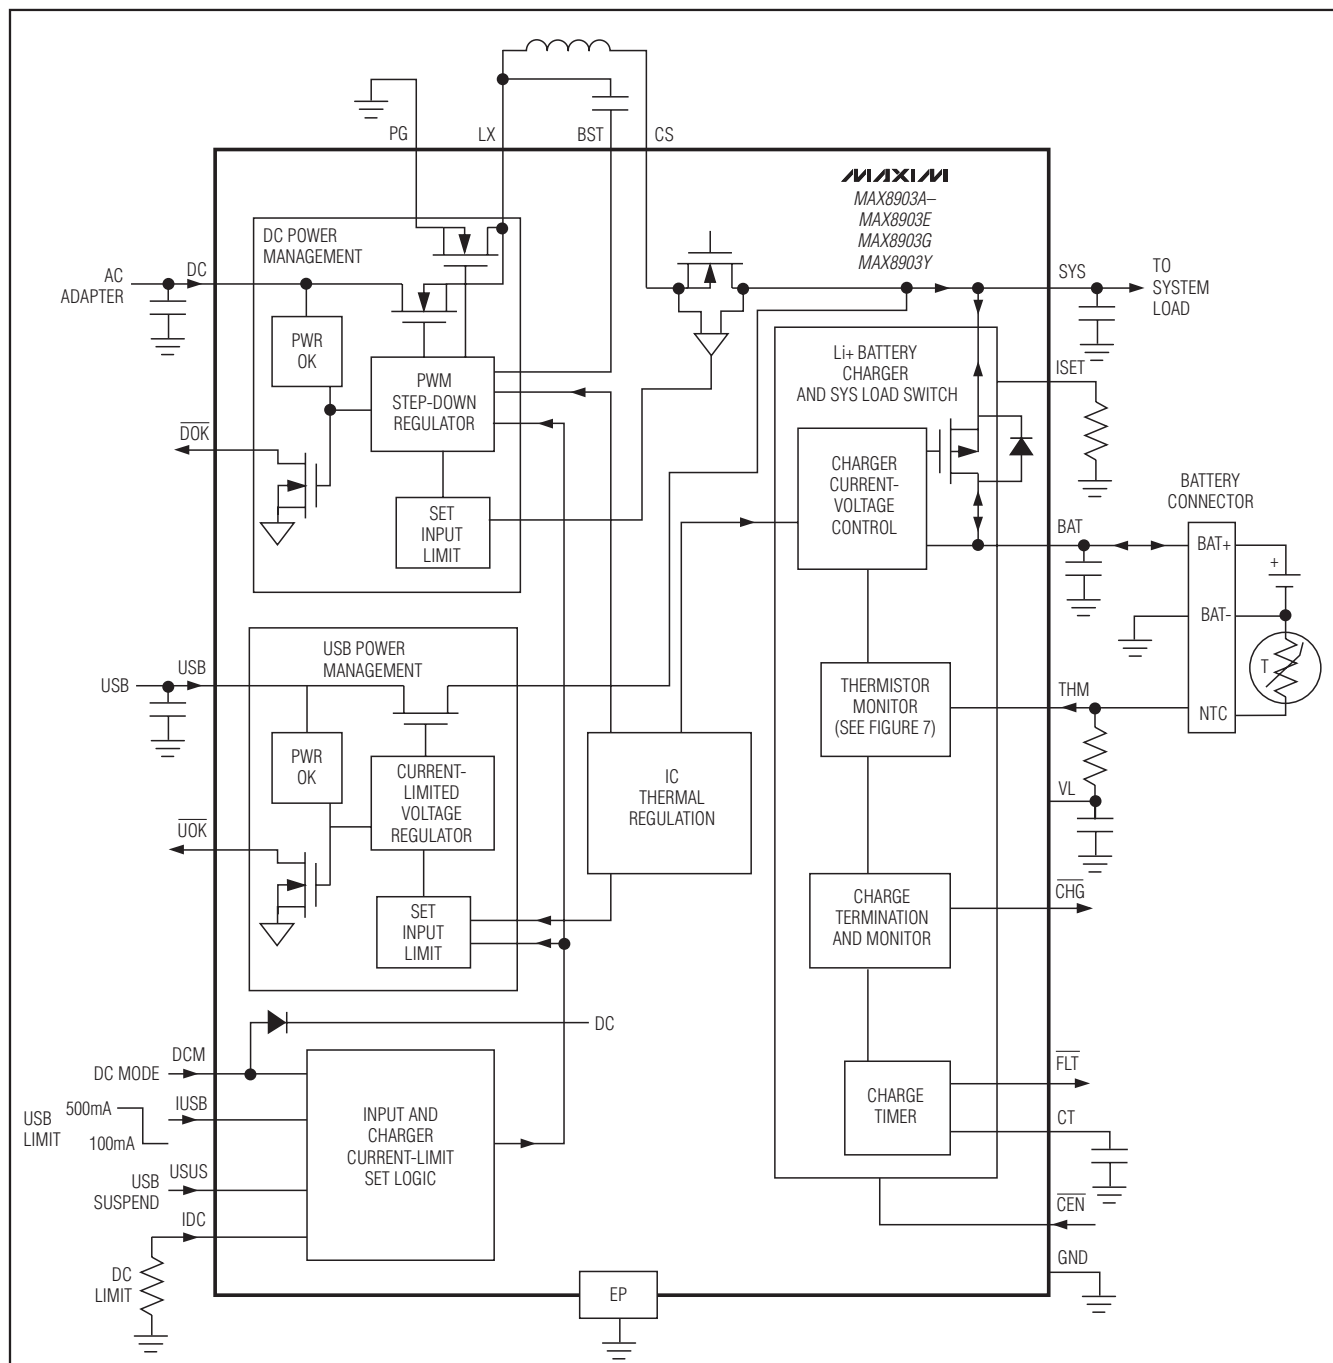
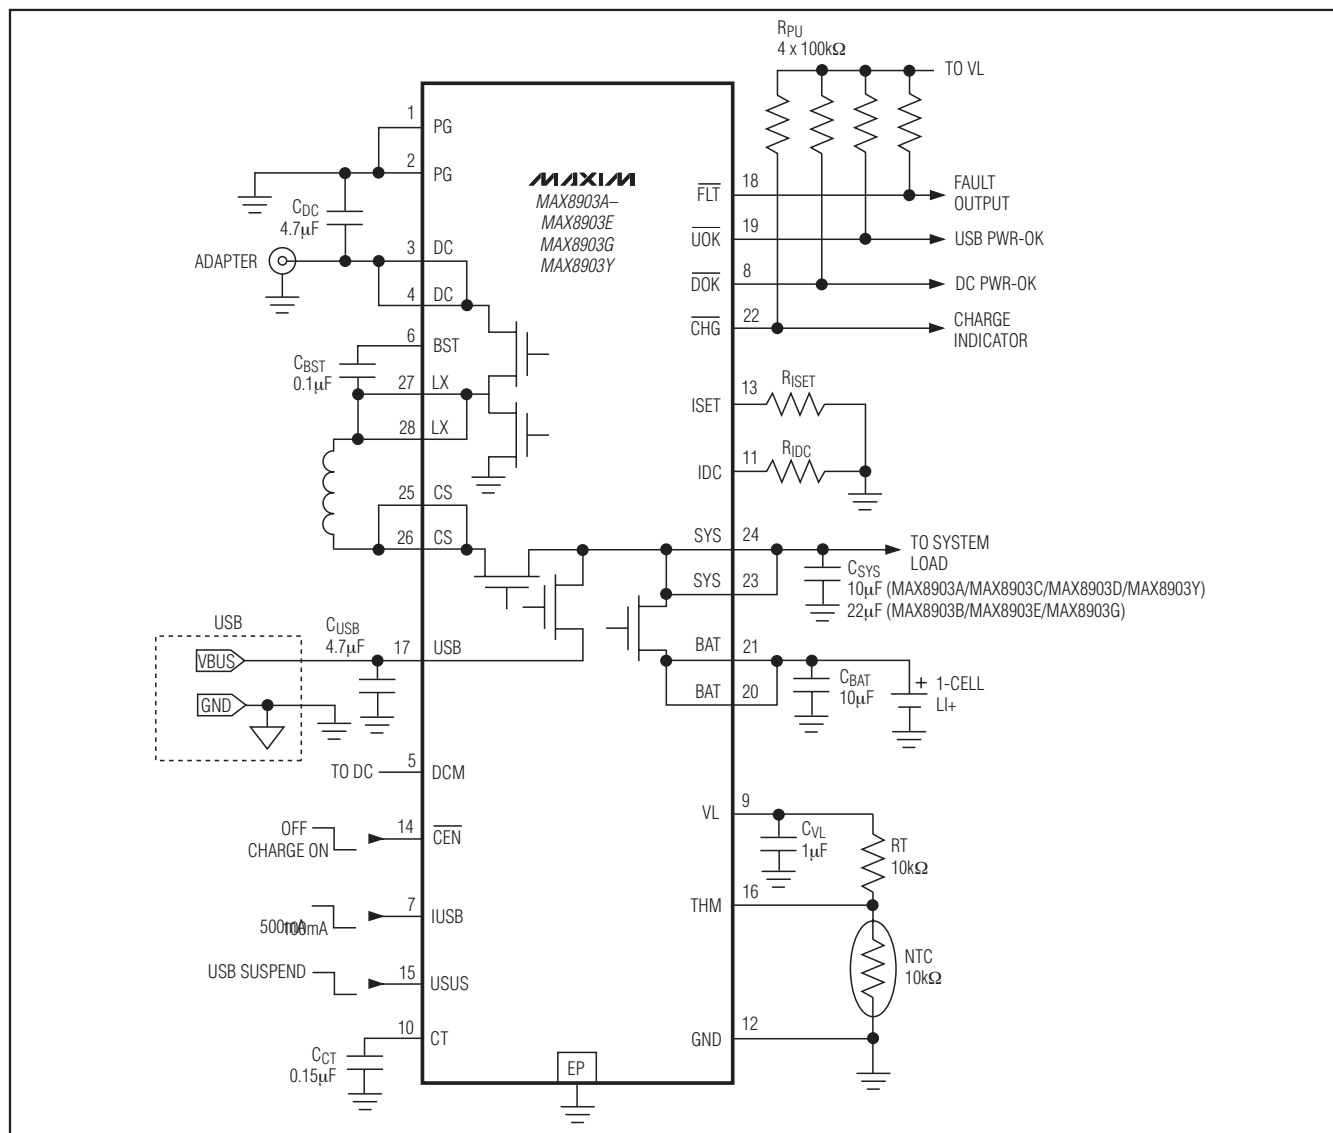

Figure 1. Functional Block Diagram
Figure 3. Typical Application Circuit Using a Mini 5 Style Connector or Other DC/USB Common Connector
As shown in Figure 1, the IC includes a full-featured charger with thermistor monitor, fault timer, charger status, and fault outputs. Also included are power-OK signals for both USB and DC. Flexibility is maintained with adjustable charge current, input current limit, and a minimum system voltage (when charging is scaled back to hold the system voltage up).
The DCM pin has an internal diode to DC as shown in Figure 1. To prevent current from flowing from DCM through the internal diode and to the DC input, DCM
cannot be driven to a voltage higher than DC. The circuit of Figure 3 shows a simple MOSFET and resistor on DCM to prevent any current from flowing from DCM through the internal diode to DC. This circuit of Figure 3 allows a microprocessor to drive the gate of the MOSFET to any state at any time.
An alternative to the simple MOSFET and resistor on DCM as shown in Figure 3 is to place a $1M\Omega$ resistor in series with the DCM input to the microprocessor. The microprocessor can then monitor the $\overline{DOK}$ output and make sure that whenever $\overline{DOK}$ is high DCM is also low. In the event that DCM is driven to a higher voltage than DC, the $1M\Omega$ series resistance limits the current from DCM through the internal diode to DC to a few μA .
***There is an internal diode from DCM (anode) to DC (cathode) as shown in Figure 1. If the DCM level needs to be set by a μP , use a MOSFET for isolation as shown in Figure 3.